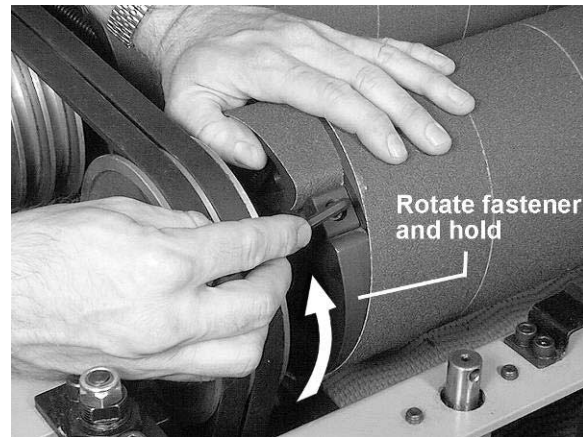

Figure 7
7. The left end of the drum which contains the recess is an independent piece (Fig. 7) that can be rotated on the drum. This fastener is spring-tensioned to take up any slack and hold the abrasive strip firmly to the drum. Rotate this fastener backward and hold it there with your thumb as shown in Fig. 7.
8. Tuck the tapered left end of the strip into the recess, as shown in Fig. 7, then insert the locking wedge and socket head cap screw, tightening the screw until the locking wedge is firmly seated.